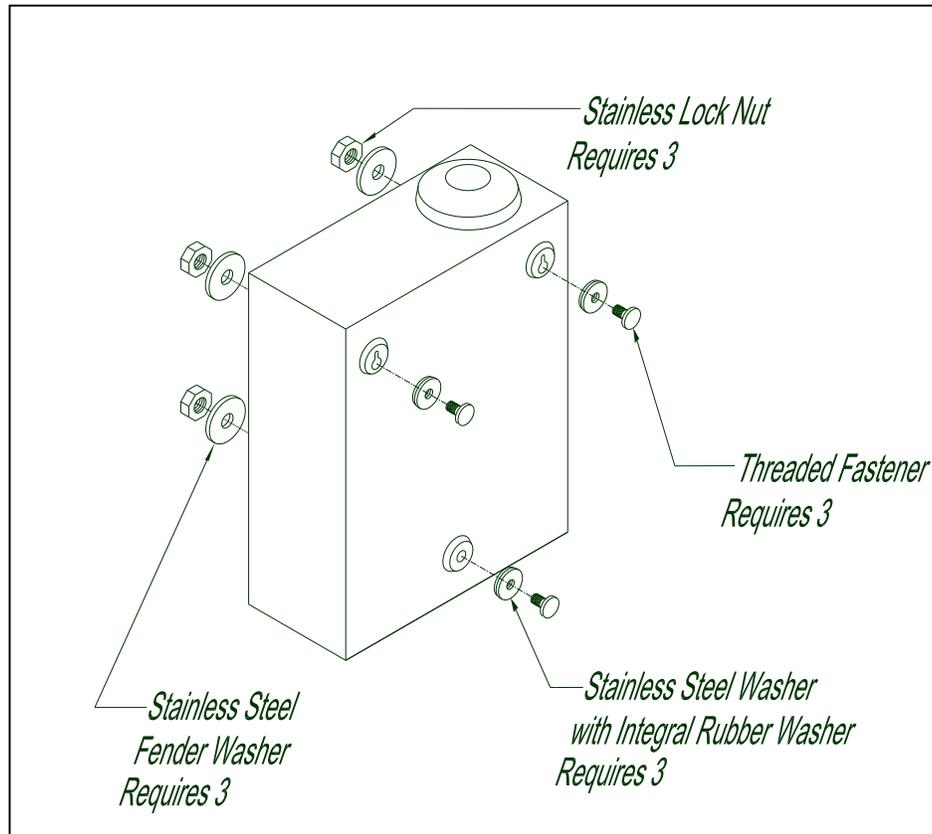

Figure 4
Step 5 – Locate three threaded studs with oversized heads and washers with integral rubber gaskets as shown in Figure 4.